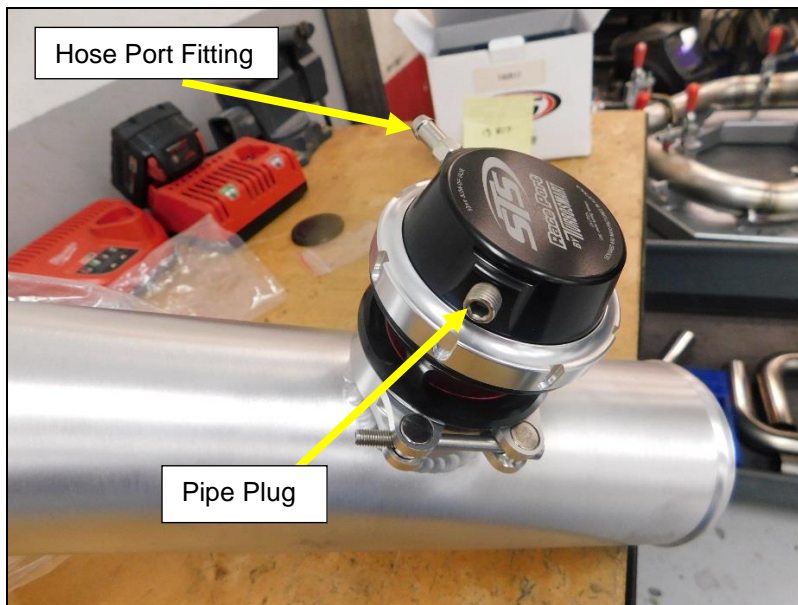

Figure 28
6. Install the hose port fitting into the driver's side port and install the plug into the second port of the top cover. Tighten both fittings to a snug condition. **DO NOT OVER TIGHTEN (Figure 28).**